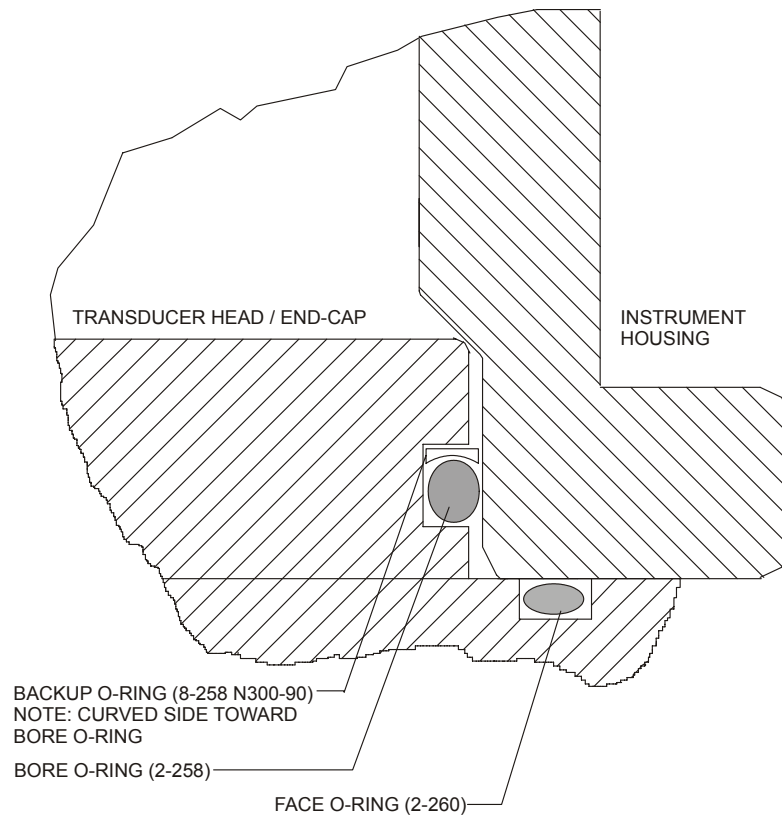

Figure 15. O-Ring Detail View
NOTE. The backup O-ring is installed on both 3000 and 6000 meter systems in addition to the 2-258 bore O-ring on the transducer/end cap assembly. Install the backup O-ring with the cupped side facing the 2-258 bore seal O-ring (see Figure 15, page 61).
- d. The backup O-ring (see Figure 15) is installed in addition to the 2-258 bore O-ring on the transducer head assembly for 3000, and 6000-meter systems. Install the backup O-ring with the cupped side facing the 2-258 bore seal O-ring.